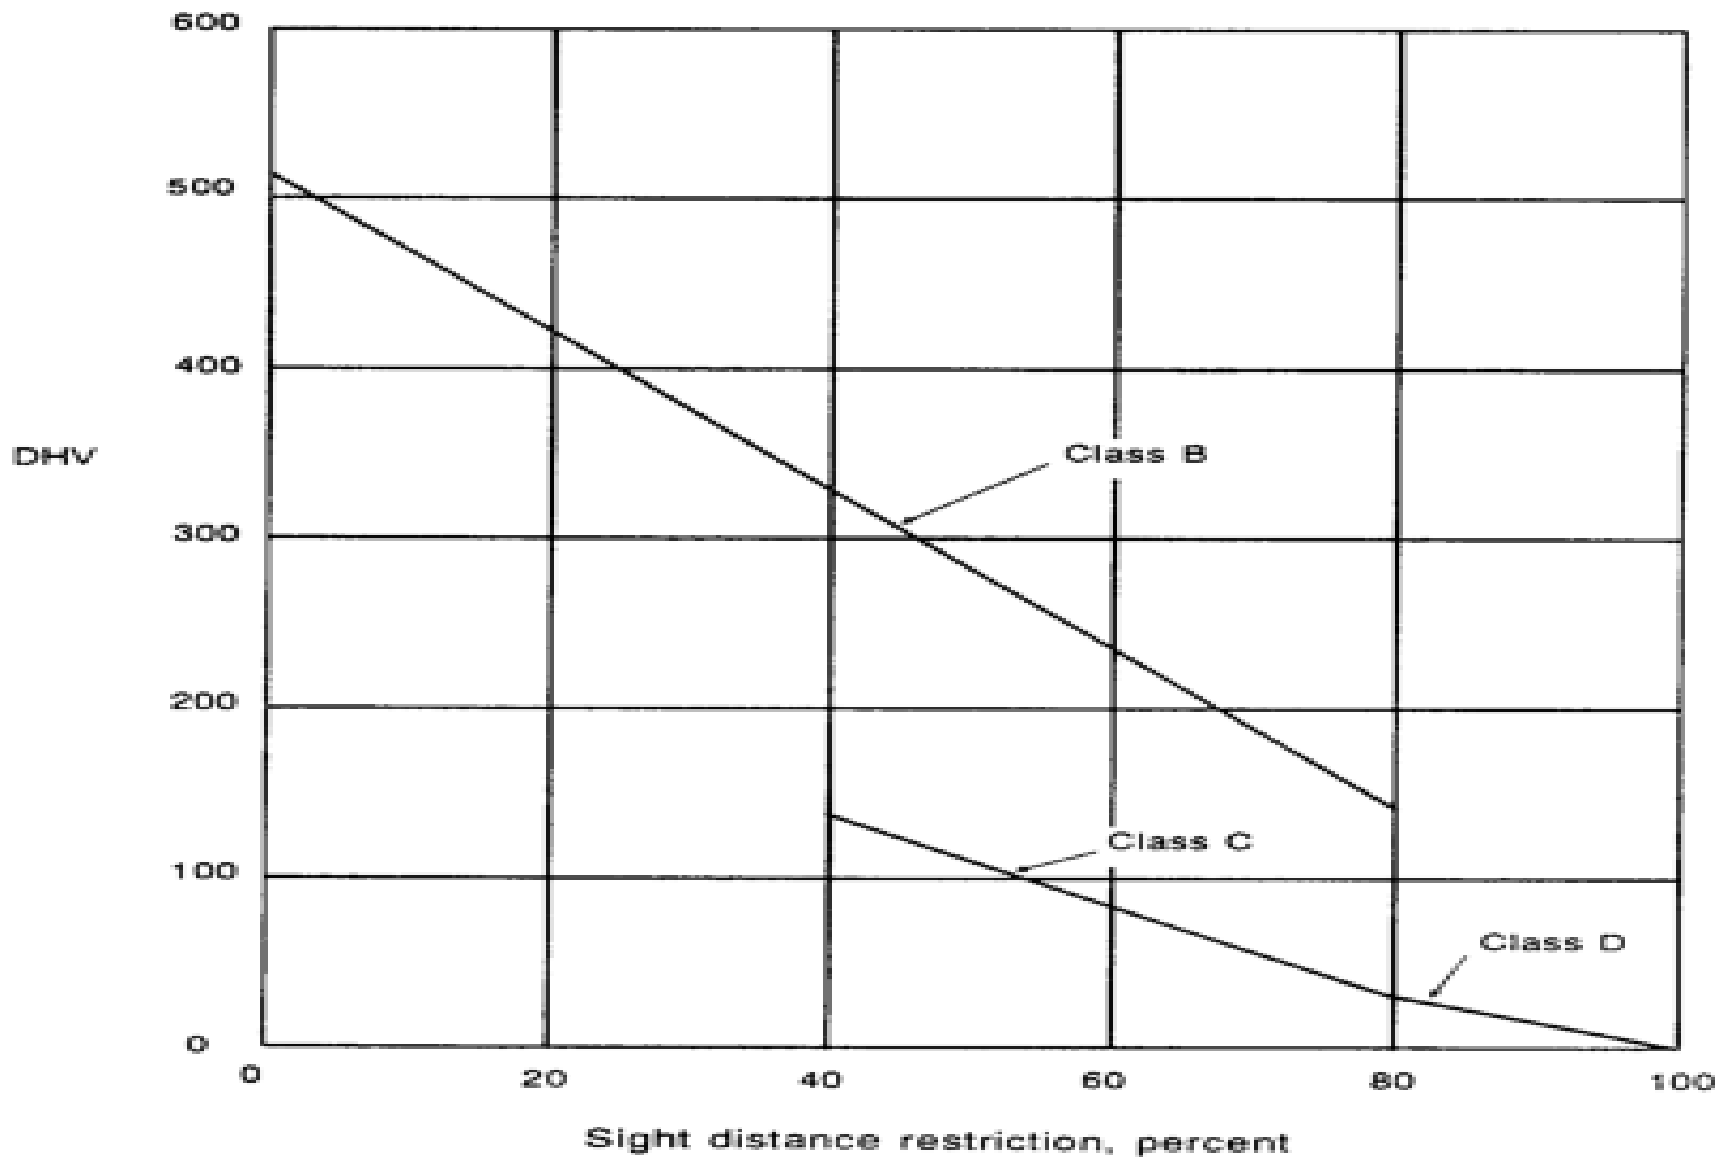

Figure 9-3. Interpolation of DHV for selection of road class (not to scale)
- Refer to FM 5-430-00-1 Figure 9-3